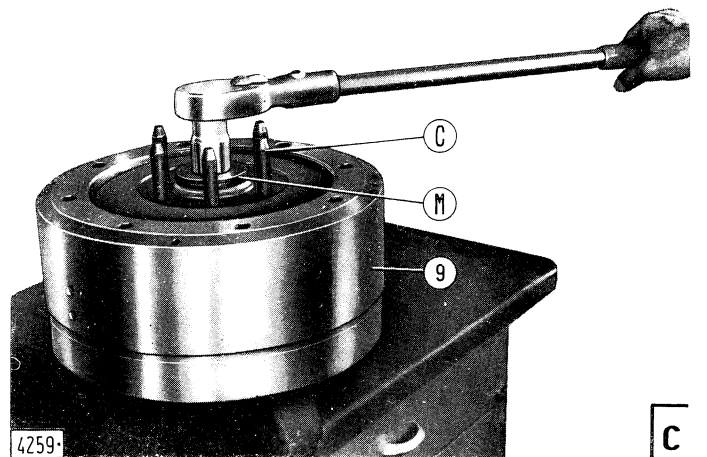

Fig. 165 - Rebuilding a Steering Clutch Pack
— Tighten the plate of compressor Part No. **291535** (a, Fig. 165), place stud carrier (19) in position and reinsert studs (C) in the tool seats.